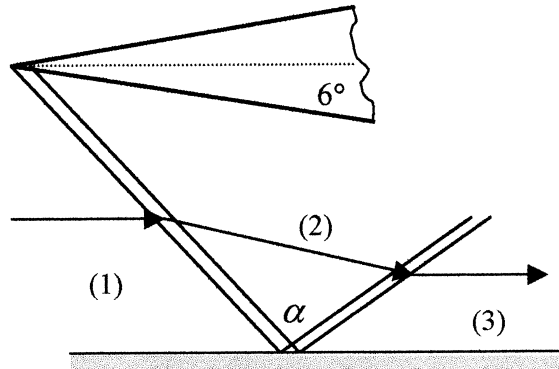

Fig. P9.137
**9.137** A  $6^\circ$  half-angle wedge creates the reflected shock system in Fig. P9.137. If  $Ma_3 = 2.5$ , find (a)  $Ma_1$ ; and (b) the angle  $\alpha$ .
Since the wall is horizontal, it is clear from the geometry of Fig. P9.137 that